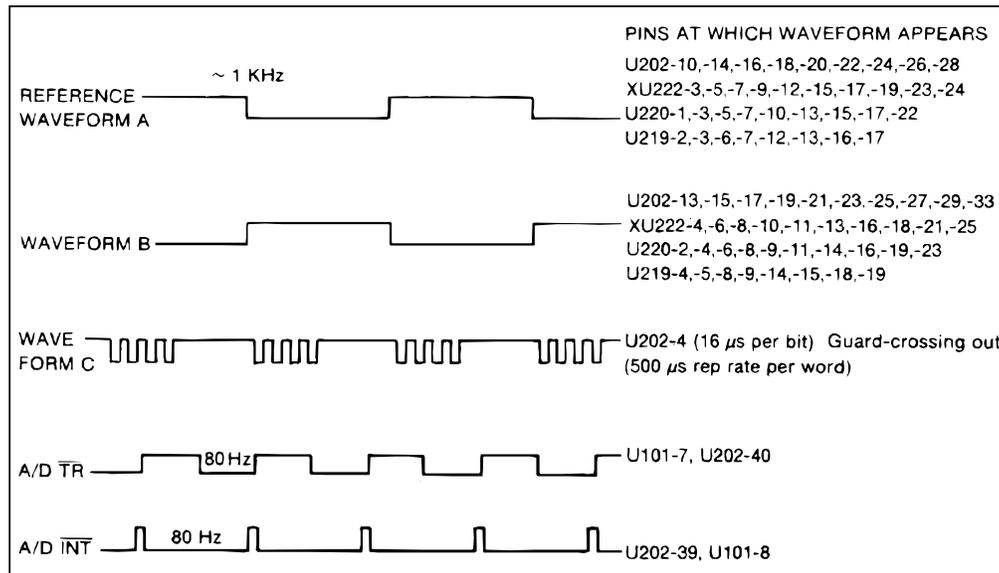

Figure 6-10. Waveforms for In-Guard Troubleshooting Mode
5. Guard-crossing test pattern (U202-4): Waveform C (see Figure 6-10).
7. Output test patterns (see Waveforms A and B in Figure 6-10): 1 kHz square wave on indicated pins, 50% duty cycle, low 0V, high 3.8V nominal. (The waveforms are interrupted every 1.5 sec for 0.2 sec due to interrupts from the watchdog timer.) To observe these patterns, remove U220, attach a logic clip to address latch U219 and sync on U219-3 for Reference Waveform A on channel 1 of a dual trace scope. Compare channel 1 with waveforms at U202-10,-14,-16,-18,-20,-22,-24,-26,-28. These should all be the same as reference Waveform A (including phase). Then compare channel 1 with waveforms at U202-13,-15,-17,-19,-21,-23,-25,-27,-29,-33. These should be the same as Waveform B, which is simply the opposite phase of Waveform A.
Verify that U219-2, -6, -7, -12, -13, -16, -17 are the same as Waveform A (see Figure 6-10) on U219-3. Verify that U219-4, -5, -8, -9, -14, -15, -18, -19 are the same as Waveform B. The waveforms should be interrupted every 1.5 sec for 0.2 sec due to interrupts from the watchdog timer.
Sync on U219-3. Verify that XU222-3, -5, -9, -12, -15, -17, -19, -23, -24 are the same as Waveform A (see Figure 6-10) on U219-3. Verify that XU222-4, -6, -8, -10, -11, -13, -